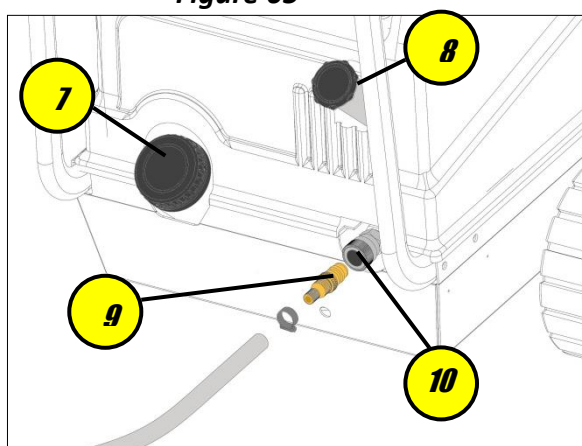

Figure 07
- e. CONNECT TO AN EXTERNAL WATER SOURCE:** Connect a hose from the external water source to the quick inlet fitting 9 (fig.07) using a hose clip (not included), then insert it to the machine fitting 10 (fig.07). Open the external water source tap.
- d. FILL THE FUEL TANK:** Make sure there is enough Diesel in the fuel tank (at least 5-6liters). If not, please refill the fuel tank through the inlet 7 (fig.07) making sure that the fuel used is filtered and of good quality (dirty fuel may damage the boiler, in particular the fuel pump)